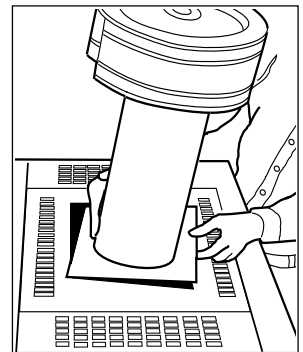
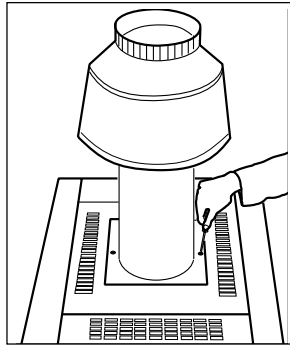

Figure 5. Vent Cap with Adapter Plate
Figure 6. Drafhood with Adapter Plate.
- e. Slide the adapter plate over the bottom of the stack extension as shown in Figure 5. Fit the stack extension down over the flue transition ring. Seat the adapter plate on the top assembly and secure it with two screws (see Figure 6).